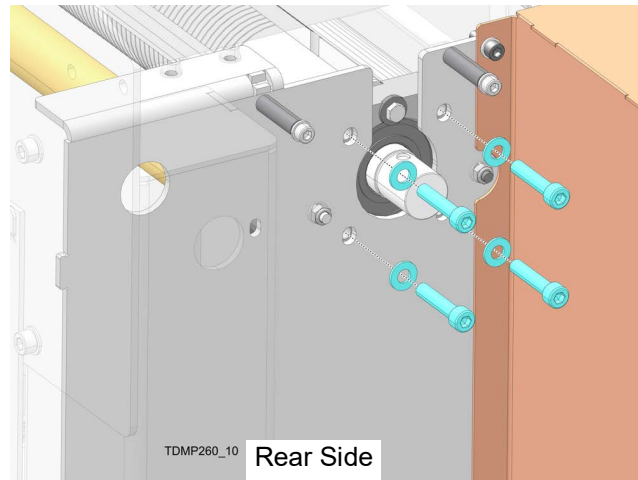

FIG. 11
2. Repeat step for bearing housing at machine rear side as shown in FIG. 11.